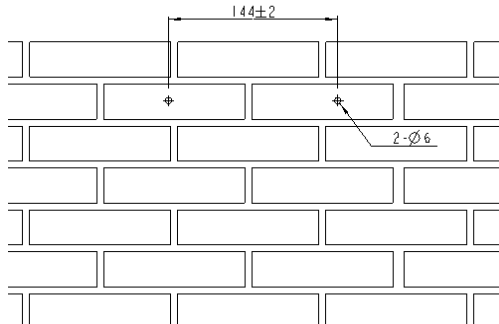

Fig.5-1: Drill the holes
- Step 1: Drill two holes using a $\Phi 6$ bit for installing screws at the selected installation position. The distance between the two holes is shown in Fig. 5-1. Keep the drill bit vertical to the wall, and don't shake the drill to keep the holes straight. The holes should be at least 30mm deep. After clearing the dust from the holes, measure the net depth of the holes.